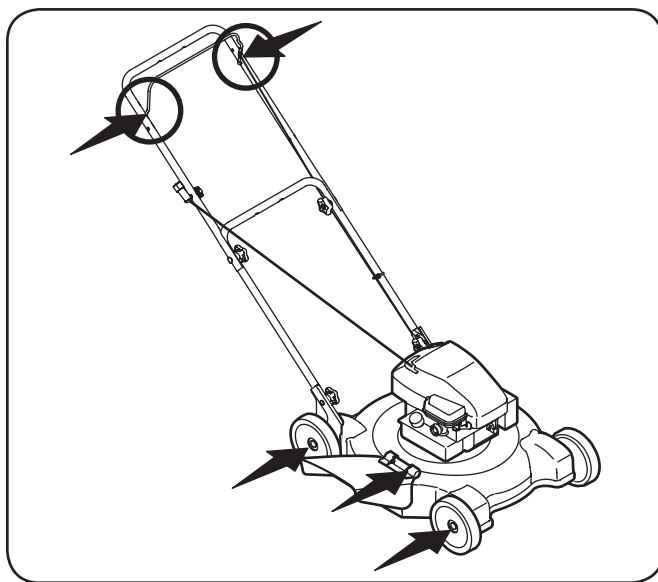

Figure 6-1
1. Lubricate pivot points on the blade control at least once a season with light oil. This control must operate freely in both directions. See Fig. 6-1.
2. Lubricate the wheels at least once a season with light oil (or motor oil). If wheels are removed for any reason, lubricate surface of the axle bolt and inner surface of the wheel with light oil. See Fig. 6-1.
3. Lubricate the torsion springs and pivot points on the side discharge chute periodically with light oil to prevent rust. See Fig. 6-1.